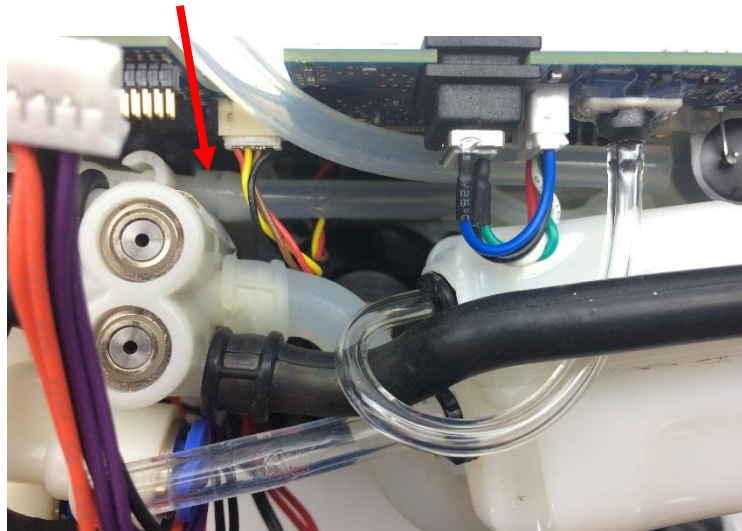

Figure 11: O2 Sensor Tubing Connection
4. Using pliers, gently remove the O2 Sensor tubing from the manifold barb (Figure 11).
2. Reconnect the O2 Sensor tubing the manifold barb (Figure 11).